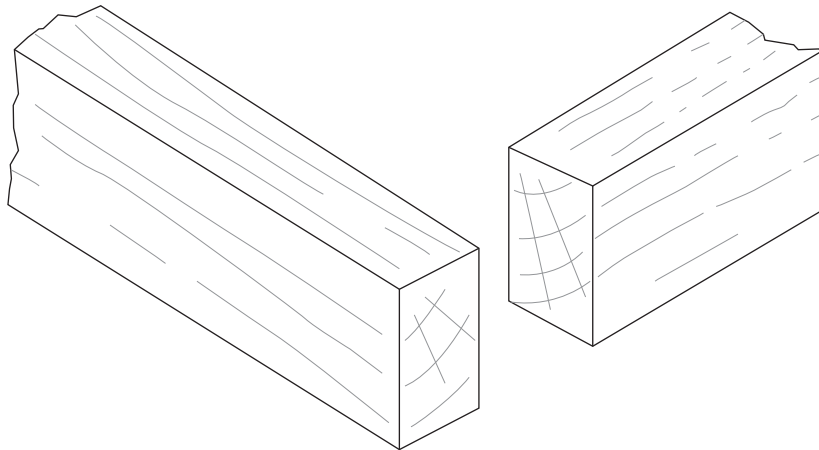

Fig. 13.3
- (e) Fig. 13.3 shows an exploded view of the rails that will be joined at each corner of the adjustable tray.
Add sketches to Fig. 13.3 to show a suitable corner construction, other than a butt joint, that could be used to join the rails. [3]